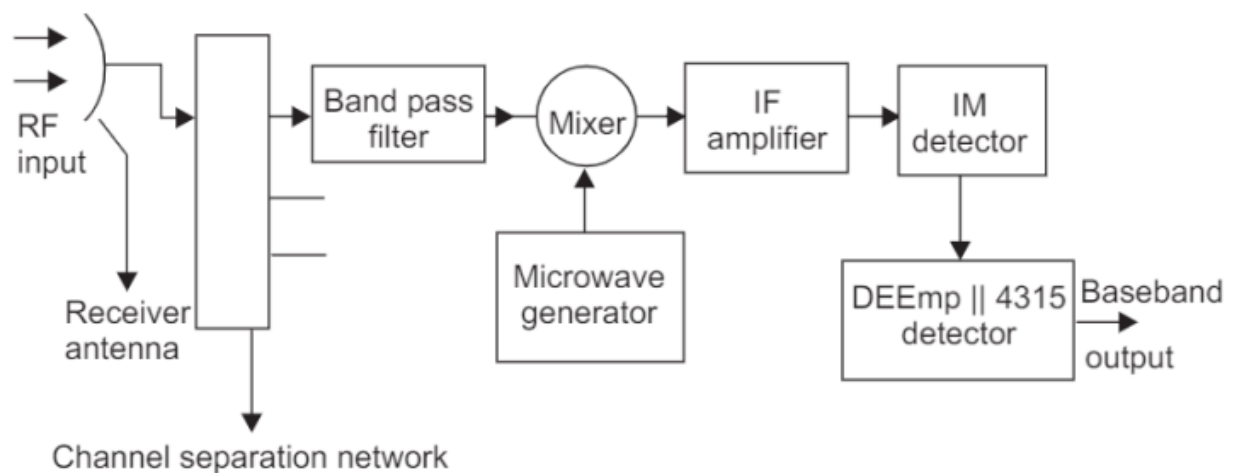

Fig. 5.20 Block diagram of FM Receiver.
- In Fig. 5.20, the RF signal picked by the receiving antenna is passed to the channel separation network, which separates the individual channels.
- The de-emphasis network applies inverse functionality of the preemphasis network at the transmitting end, to finally restoring the original baseband signal. Figure 5.20 shows the microwave FM receiver block diagram.